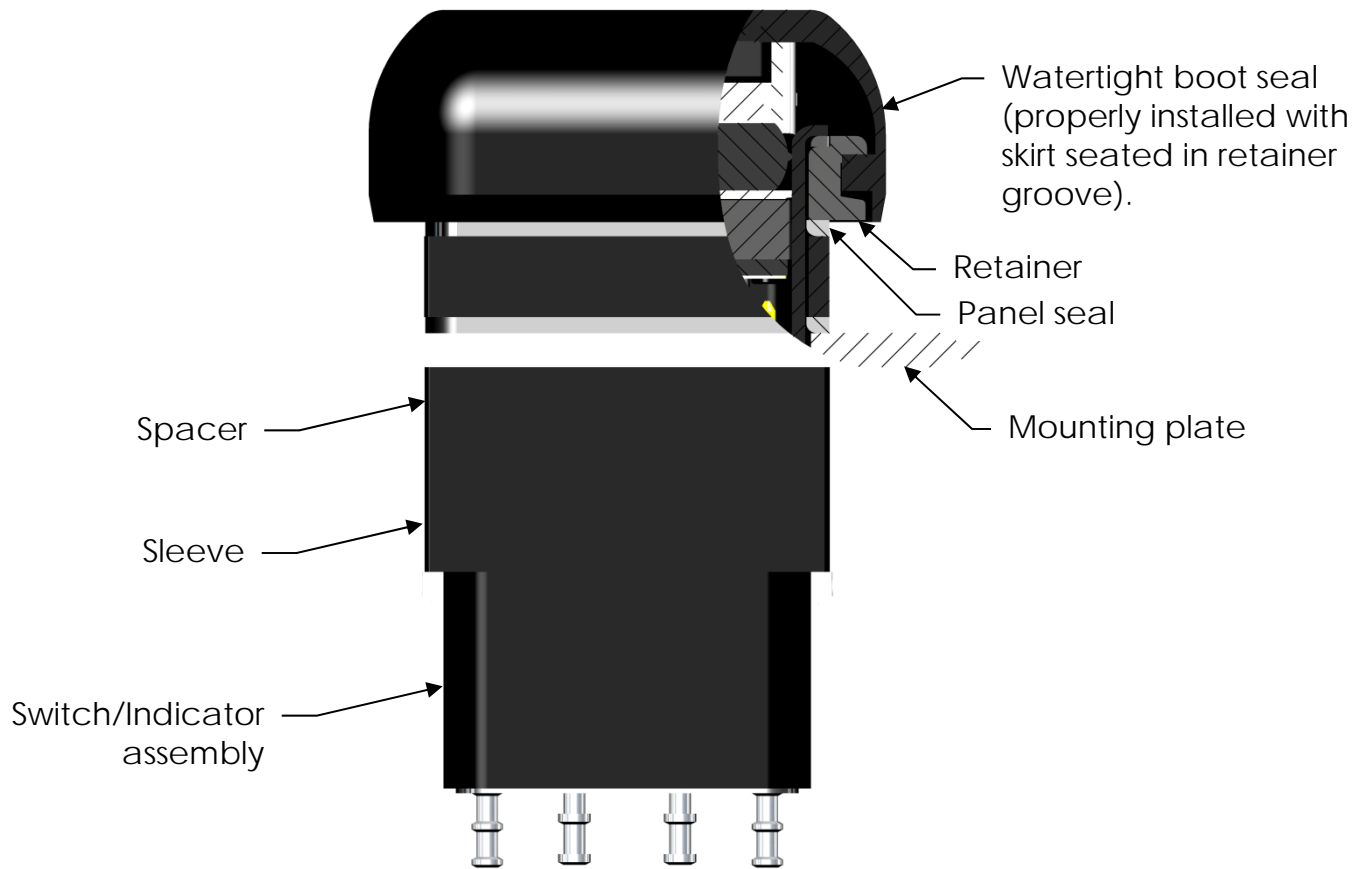

Figure 4 – Switch/pushbutton with watertight seal in installed position
- 3.3. Re-assemble the faceplate and faceplate seal into boot seal PN: 124001-001 with the legend having the same orientation to the notch openings as it did in the faceplate bezel it was originally removed from. Install the lamp box assembly. The post on the lamp box assembly must be at the top with the legend "right reading". See Figure 4. Temporarily set this assembly aside.
- 3.7. Install watertight seal retainer PN: 11881 and panel seal PN: 12497. See Figure 4.